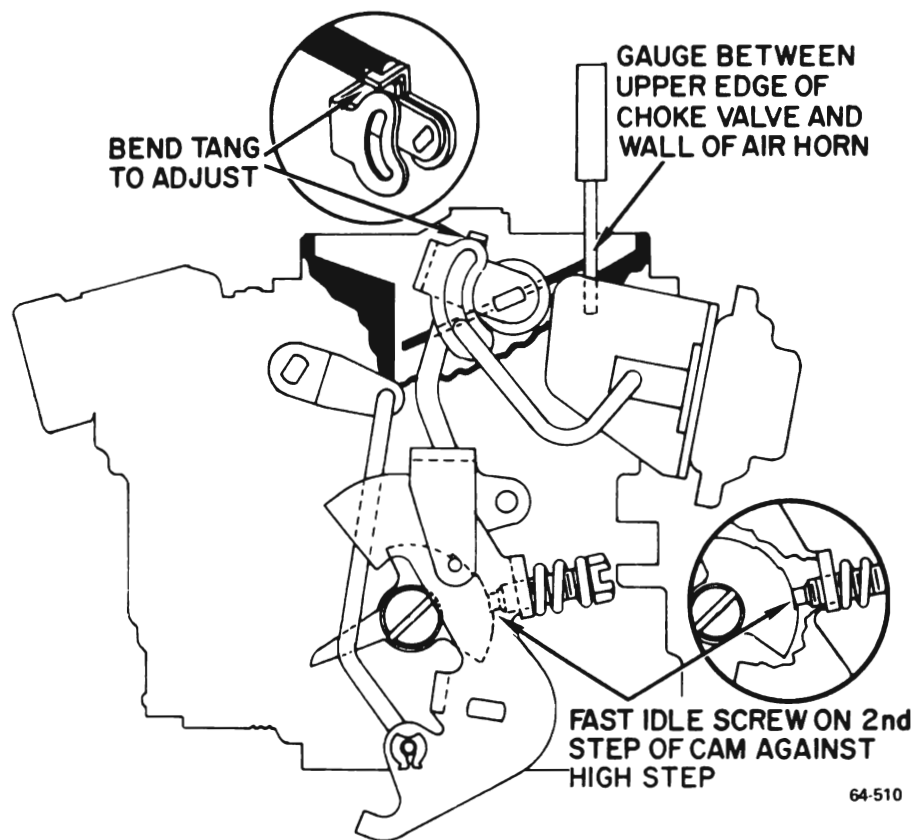

Figure 64-23 - Choke Rod Adjustment
15. Install choke rod into choke lever and fast idle cam. Install fast idle cam screw and tighten securely. See Figure 64-23 for proper installation.